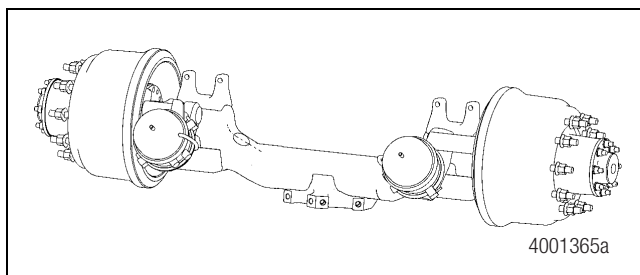

Figure 2.5
- Tubular deep-drop axles are designed for low floor applications. Figure 2.5.